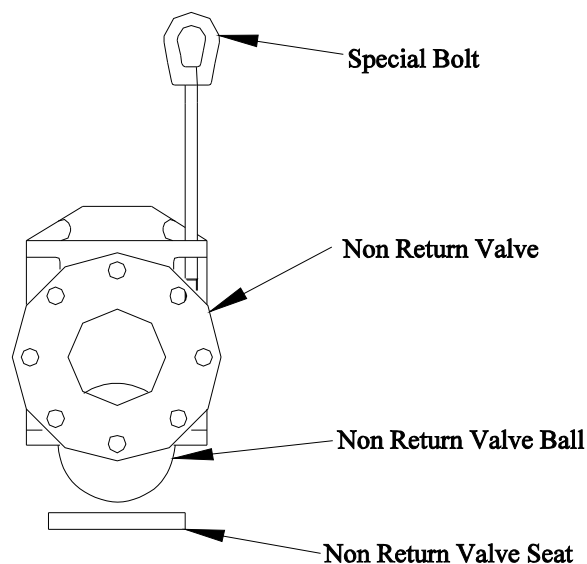

Figure 8 Non-return Valve
1. Regularly check the non-return valve, **Figure 8**, for blockage and wear.